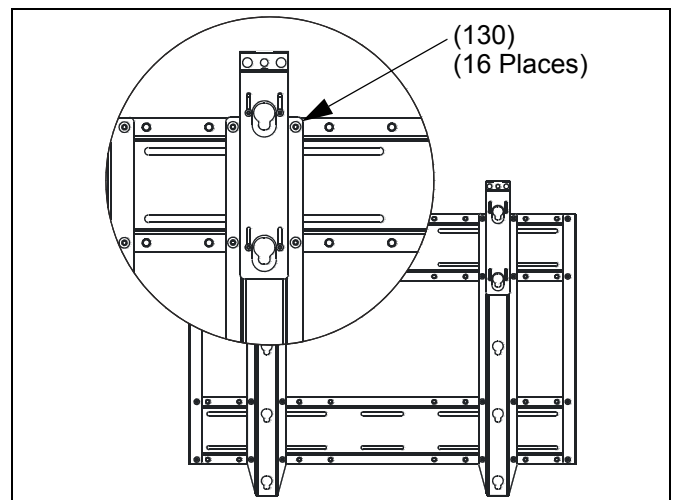

Figure 13: Installation on Middle Mounting Holes
- 24" horizontal dimension: Install brackets (20) to middle set of mounting holes (See Figure 13).